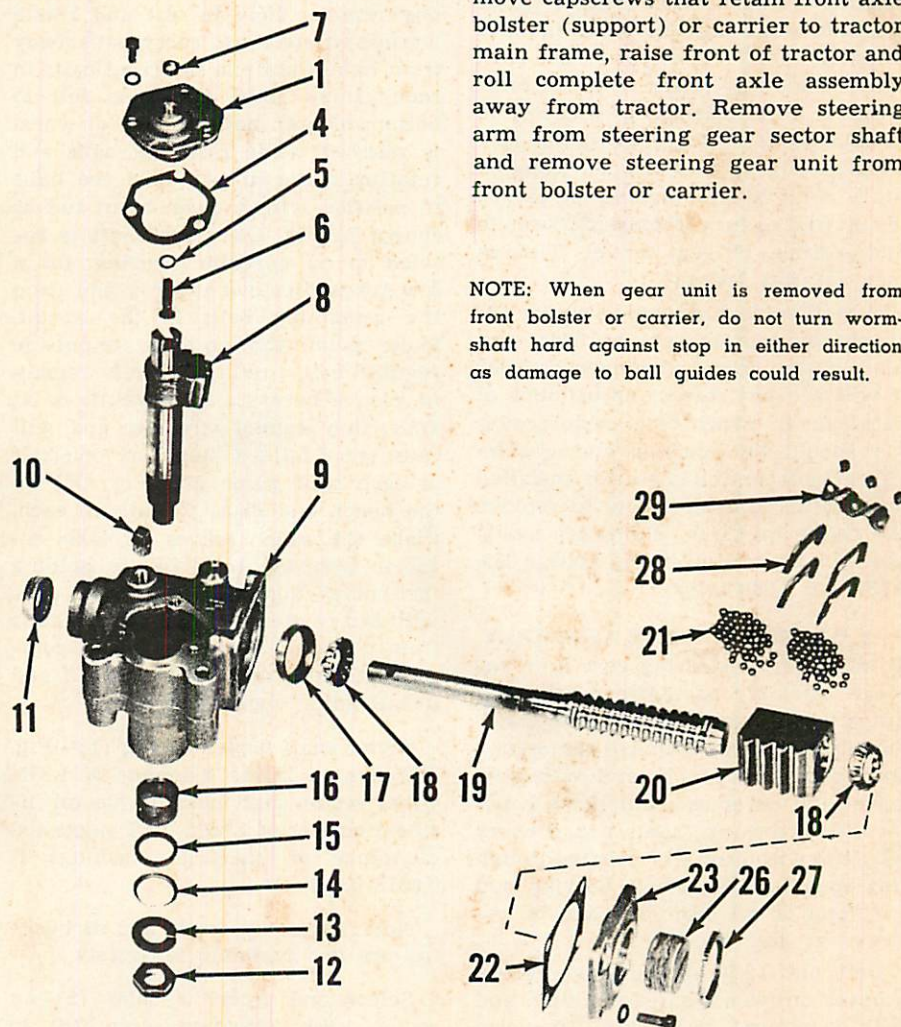
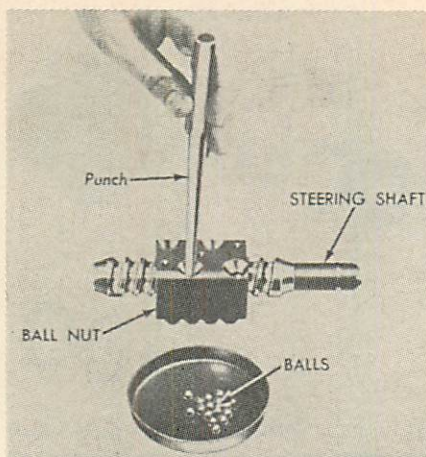

Fig. O5 — Exploded view of Saginaw steering gear assembly used on manual steering models.
Fig. O6 — Using punch to align ball nut with wormgear and to fill ball circuit.
Remove steering gear unit as outlined in paragraph 9. Loosen lash adjusting screw (6—Fig. O5) several turns to relieve any load that may be imposed by the meshing of sector and worm gears. Loosen lock nut (27) and turn adjuster (26) inward until 8-12 in.-lbs. torque is required to rotate the worm shaft. Tighten lock nut and re-check. Adjust sector mesh as outlined in paragraph 11.
**11. SECTOR MESH (BACKLASH) ADJUSTMENT.** This adjustment is controlled by lash adjuster screw (6); however, before making any adjustment, make sure that the wormshaft adjustment is correct as specified in paragraph 10.
To reassemble ball nut, place nut over middle section of worm as shown in Fig. O6. Drop bearing balls into one retainer hole in nut and rotate wormshaft slowly to carry balls away from hole. Continue inserting balls in each circuit until circuit is full to bottom of both holes. If end of worm is reached while inserting balls and rotating worm in nut, hold the balls in position with a clean blunt rod as shown in Fig. O6 while shaft is rotated in an opposite direction for a few turns. Remove the rod and drop the remaining balls in the circuit. Make certain that no balls are outside regular ball circuits. If balls remain in groove between two circuits or at ends, they cannot circulate and will cause gear failure. Next, lay one-half of each split guide (28—Fig. O5) on the bench and place 13 balls in each. Place the other halves of each retainer over the balls. While holding the halves together, plug their ends with heavy grease to prevent the balls from dropping out; then, insert complete retainer units in worm nut and install guide clamp.
Sector shaft large bushing (16—Fig. O5) has an inside diameter of 1.375. Other sector shaft bushing has an inside diameter of 1.0625. I&T suggested clearance of shaft in bushings is 0.0015-0.003.